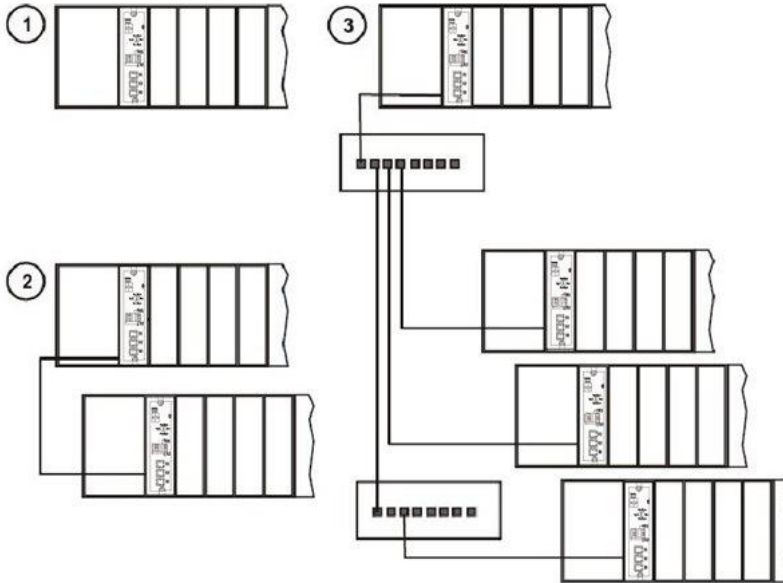

Figure 18 – ControlEdge HC900 Controller Configurations
Examples of ControlEdge HC900 Controller I/O expansion configurations are shown in Figure 18.
- In Figure 18, any of the racks shown in each controller configuration can be 4-, 8- or 12-slot versions. Redundant I/O power not available with 4-slot.